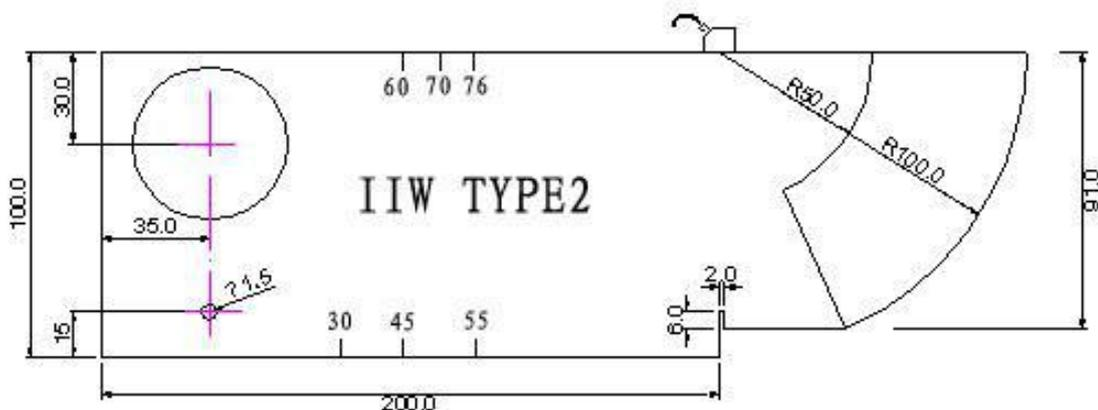

Fig.4.1 50/100 echo
- (1) Select CABT in group Auto C (Automated calibration of transducer) by the < Auto Calibrate > key, by the <Enter > key, you can see 50/100 echo,then put your probe as fig4.1 。 Try to find the highest echo of 100,then press the <Enter > key twice,the zero point and sound speed of material has been calibrated. then press the <Enter > key, you will see x (front edge)=XXX.XXmm,please read it and input it.